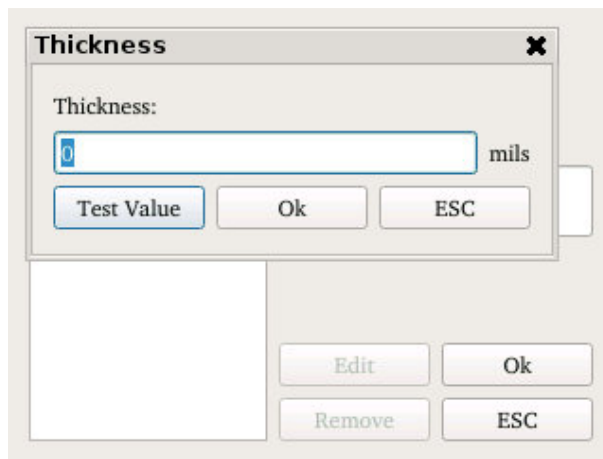
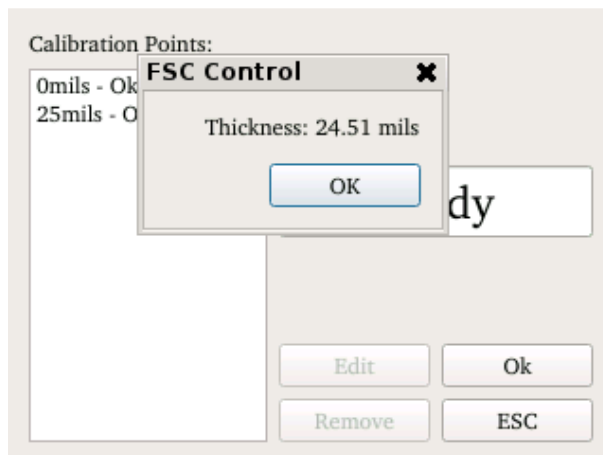

Figure 19: Test Value
Figure 20: Result Test Value
- After performing the calibration you have the option to test it. Therefore perform a measurement. Press the button "Test Value" see Figure 19 and compare it with the expected result see Figure 20.